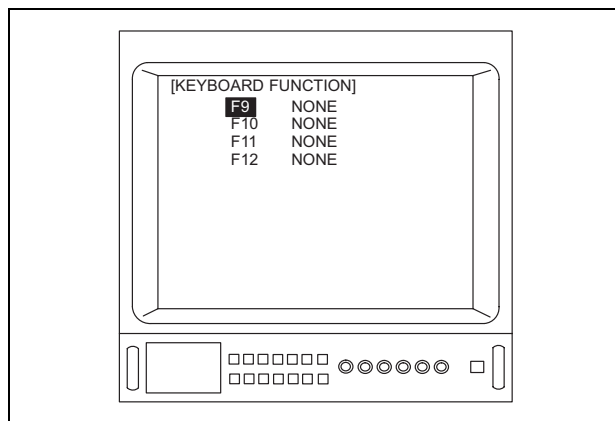

Figure 5.66
- Depress the menu switch “←” or the “Enter” key on the keyboard to adjust the “SETTING” (see Figure 5.66).